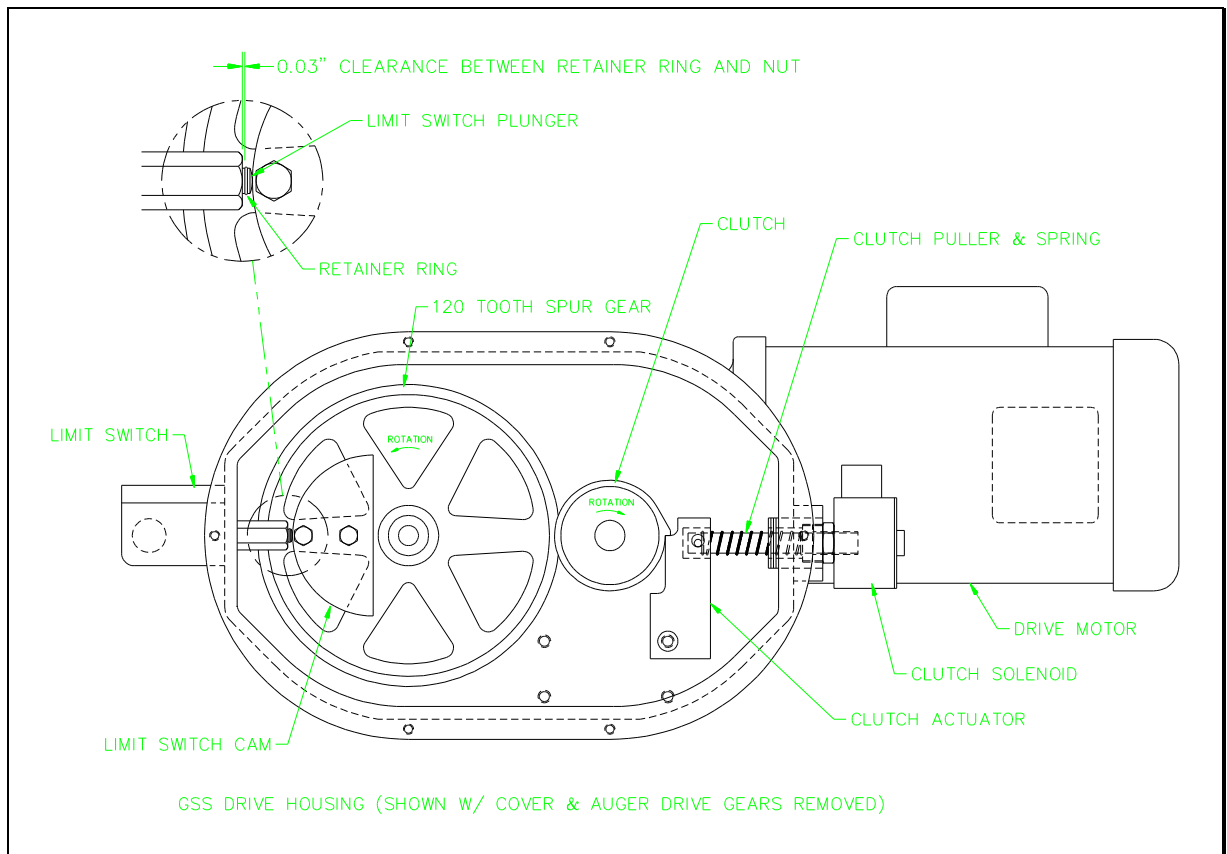

FIGURE 5-1, LIMIT SWITCH CAM ADJUSTMENT
The limit switch cam actuates the limit switch by pushing the switch plunger inward. The correct cam position is shown in Figure 5-1. Follow the instructions below.
- Slide the limit switch cam to the position shown in Figure 5-1. Hold the 0.03" dimension and re-tighten the two 1/4-20UNC hex head screws.
- F. Make sure key is in place on reducer shaft and re-install the clutch so that the clutch and limit switch cam are positioned as shown in figure 5-1.
- G. Turn the motor fan shaft by hand in the direction labeled on the motor and in figure 1-1. The clutch will rotate until the stop cog engages on the clutch actuator and stops further rotation of the auger tube. The limit switch cam should be the position as shown in figure 5-1.